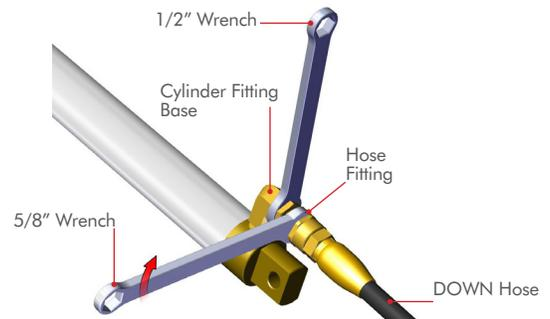

Figure 3
STEP 3: Cut the (2) **Zip Ties** with a knife or scizzors. DO NOT cut through hoses. **FIG 3**
STEP 8: Repeat **STEPS 6 & 7** for the **DOWN Hose**. **FIG 3**